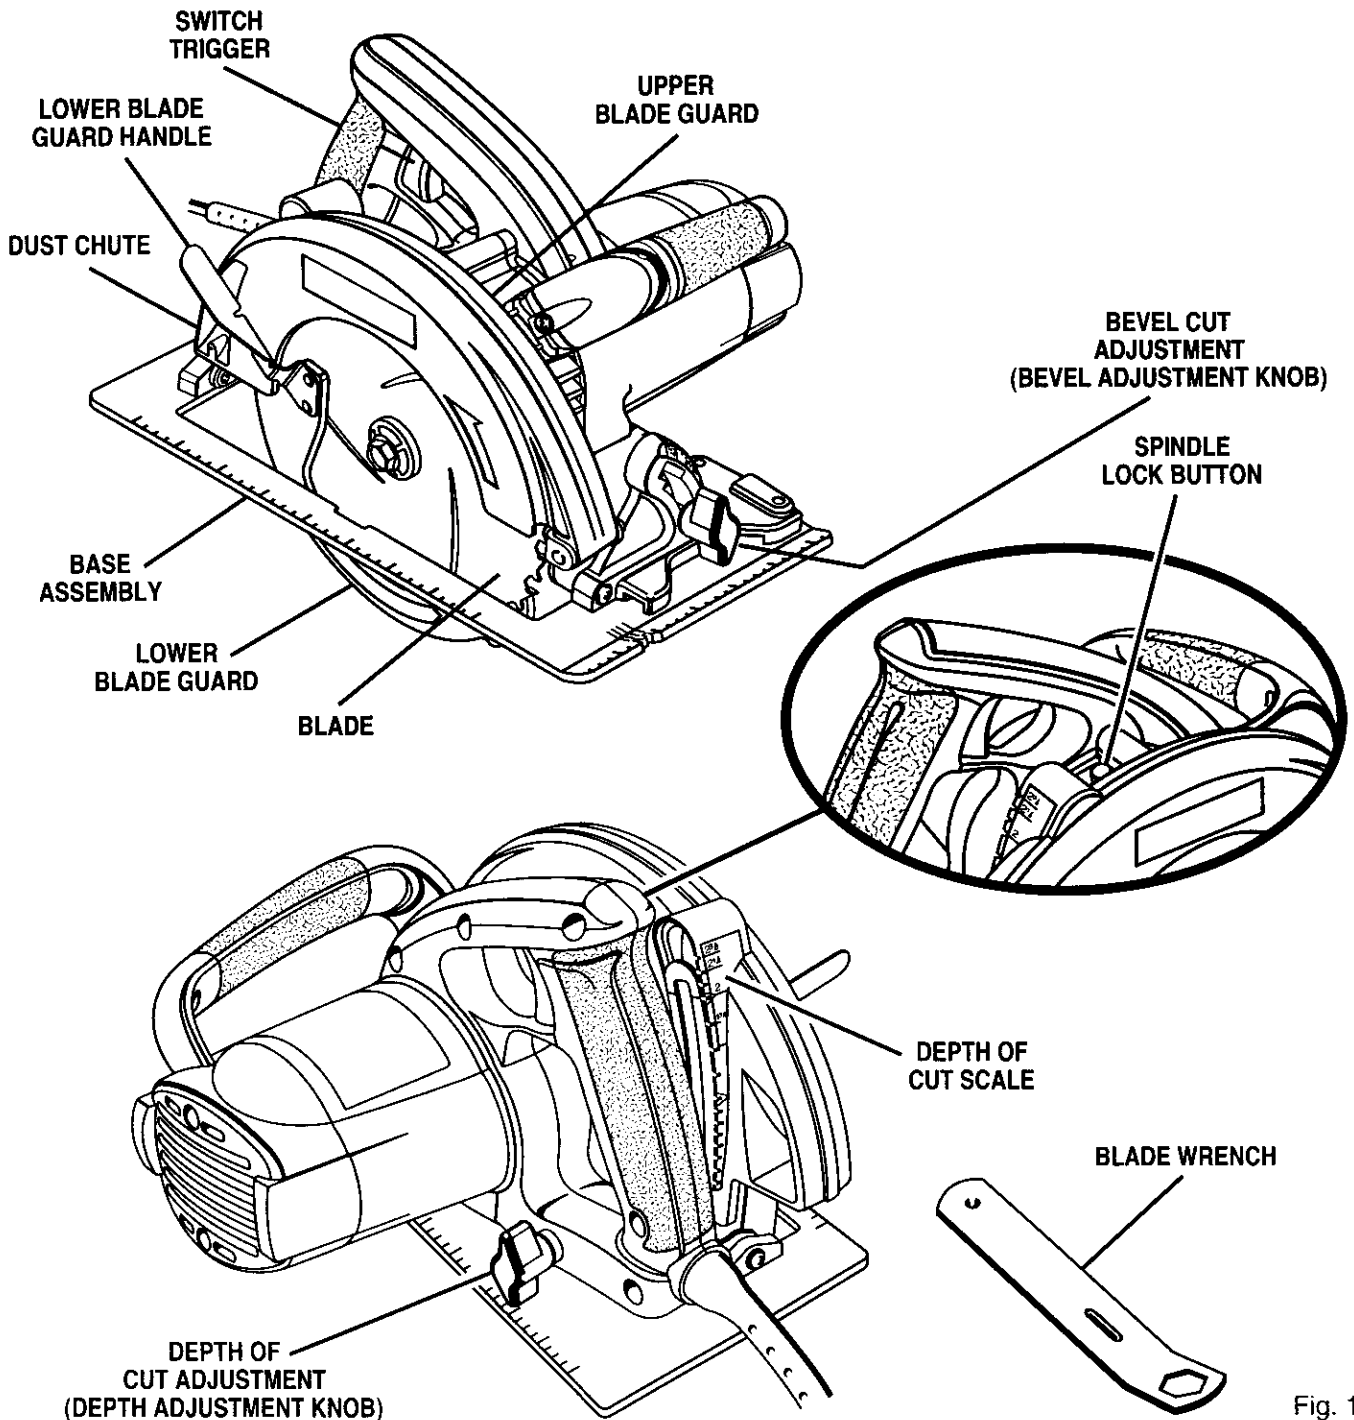

Fig. 1
See Figure 1.
- Remove blade wrench from carrying case. See Figure 1.